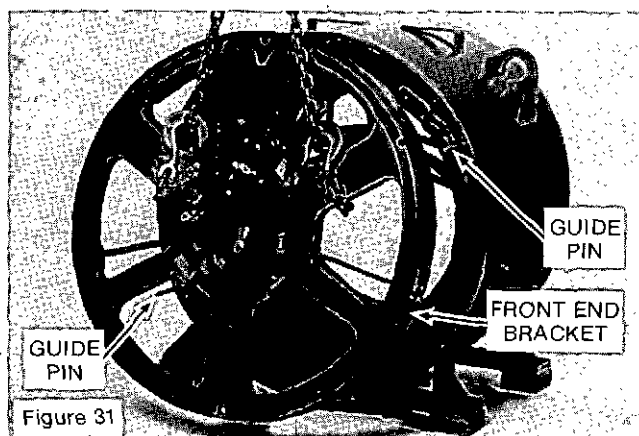
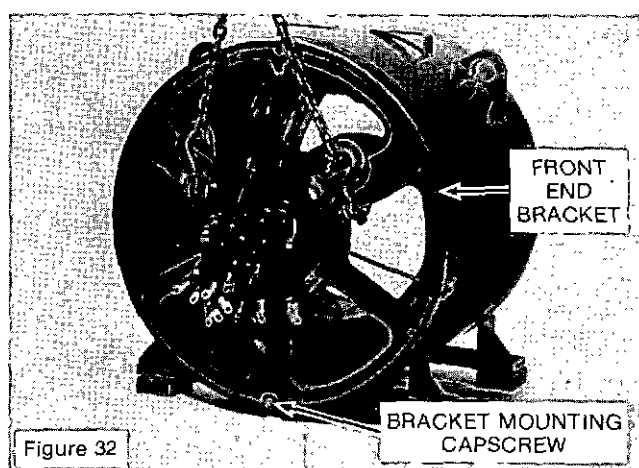

Figure 31
Figure 32
2. Install two guide pins in the main stator assembly frame. Align the bracket mounting holes to the guide pins and slide the bracket over the pins. (See Figure 31.) On 680, 682 Frame generators, install the bottom cap-screw. (See Figure 32.)